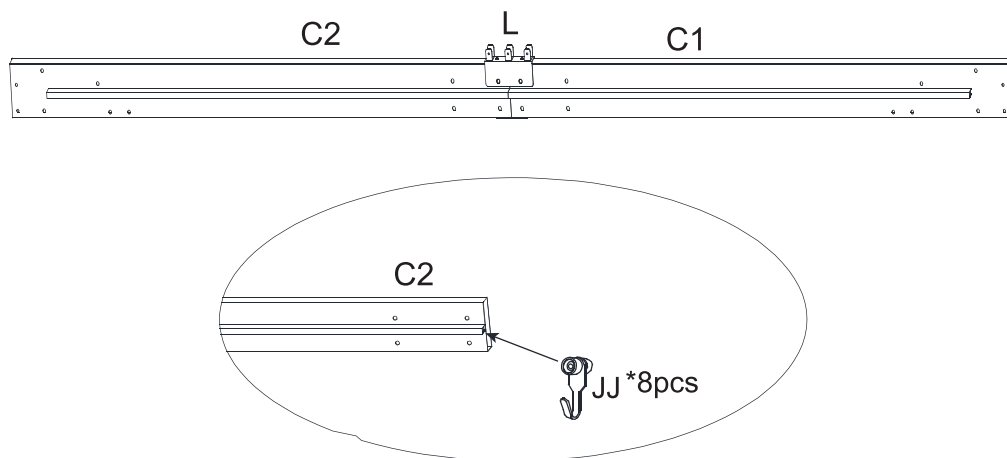

Figure 2.1
2.1. Slide the Hang Wheels (JJ) into the Right Lintel (C2). See Figure 2.1.